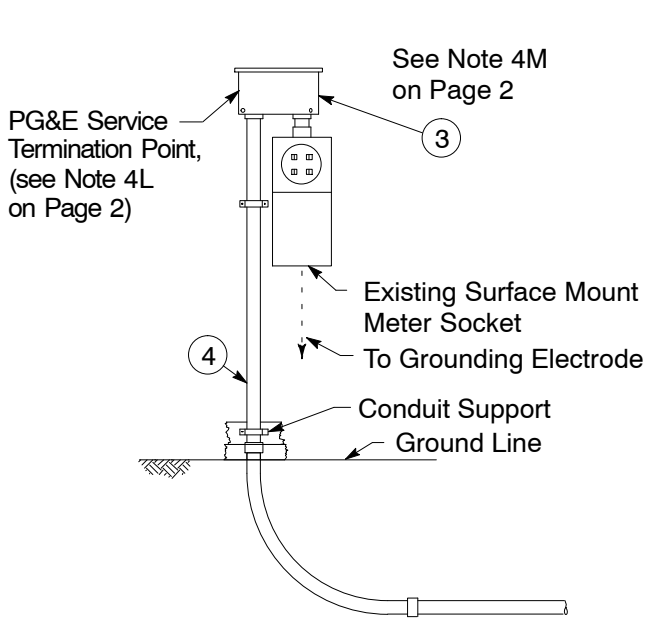
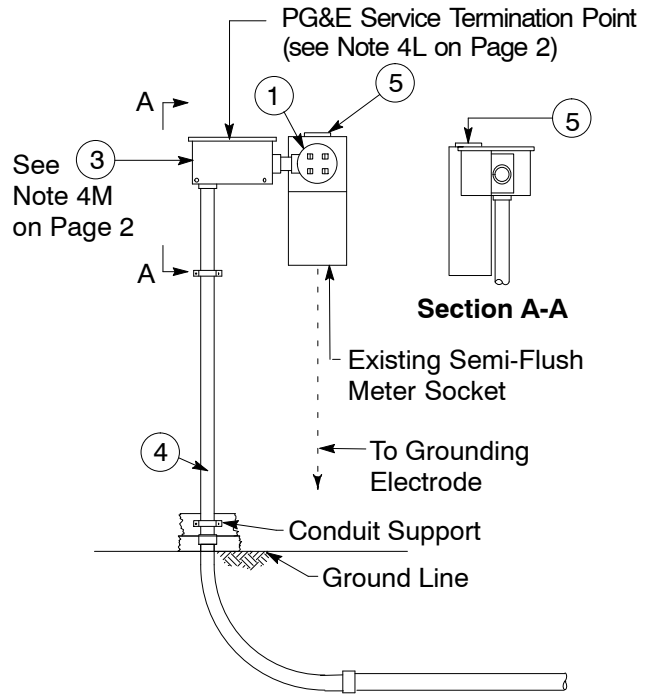

Figure 4
Figure 5
- M. Item 3 in Figure 4 on Page 4 and Figure 5 on Page 4, may be used only if the service conductor is 1/0 AWG or smaller, and can be pulled from the PG&E end of the service.